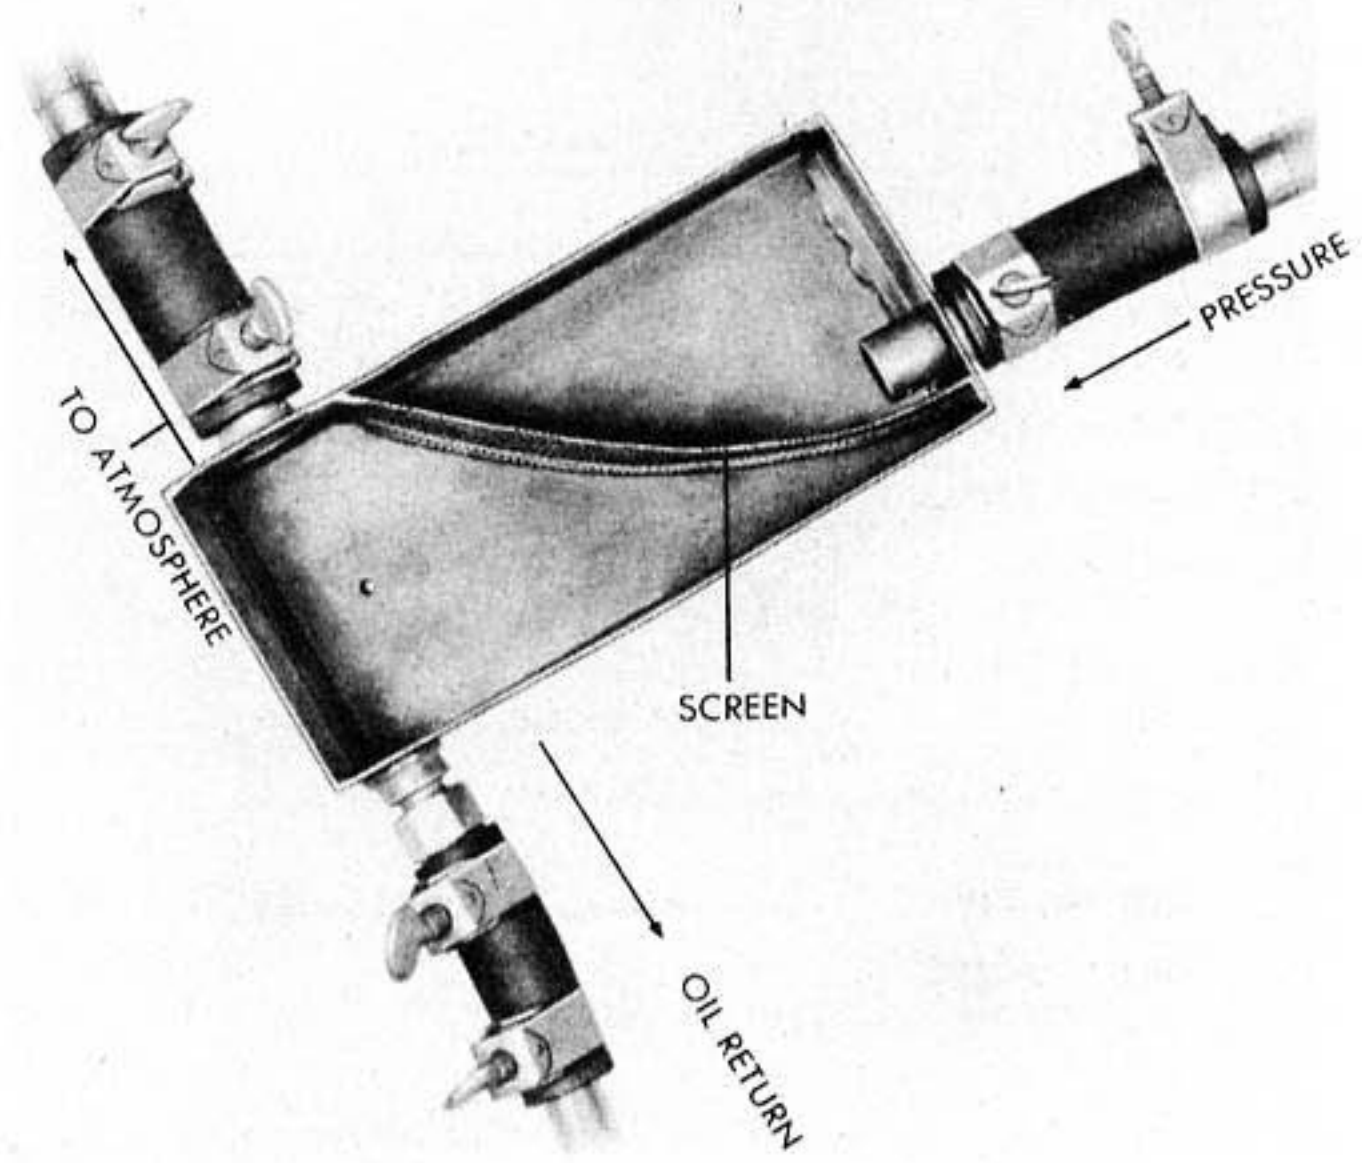

Figure 163 - OIL SEPARATOR - CUTAWAY VIEW
(5) REMOVAL OF OIL SEPARATOR. (See figure 163.)
(1) INSTALLATION OF OIL SEPARATOR. (See figure 163.)